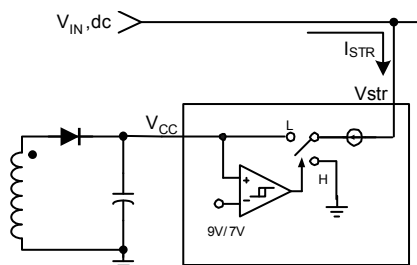

Figure 14. Internal Startup Circuit
**1. Startup:** At startup, the internal high-voltage current source supplies the internal bias and charges the external  $V_{CC}$  capacitor, as shown in Figure 14. When  $V_{CC}$  reaches 9V, the device starts switching and the internal high-voltage current source stops charging the capacitor. The device is in normal operation provided  $V_{CC}$  does not drop below 7V. After startup, the bias is supplied from the auxiliary transformer winding.